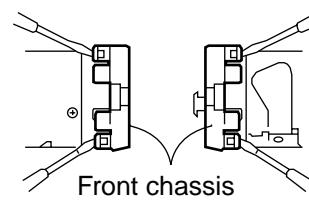

Fig. 1
■ Removing the front chassis (see Fig.1)